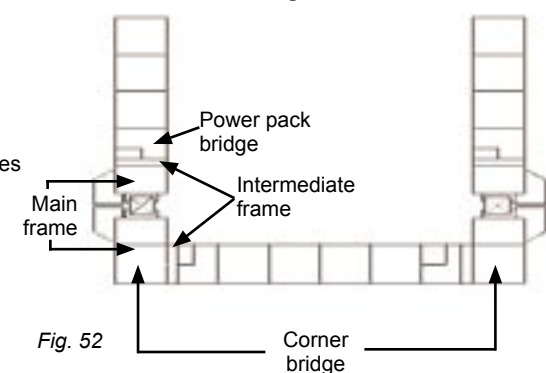

Fig. 52
- 3- For a bearing installation (see fig. 52), use the yoke plates and bolt assemblies to attach the intermediate frame to the corner bridge as described in the instructions for a bearing bridge installation (see page 23).